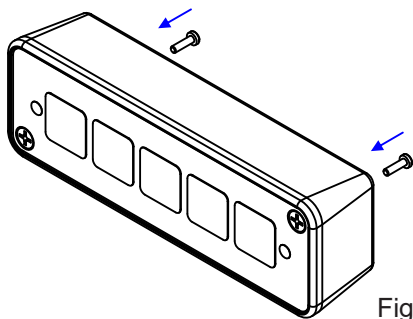

Fig.1
- Locate and note the 2 fixation holes on the back side of the console (Fig.1).